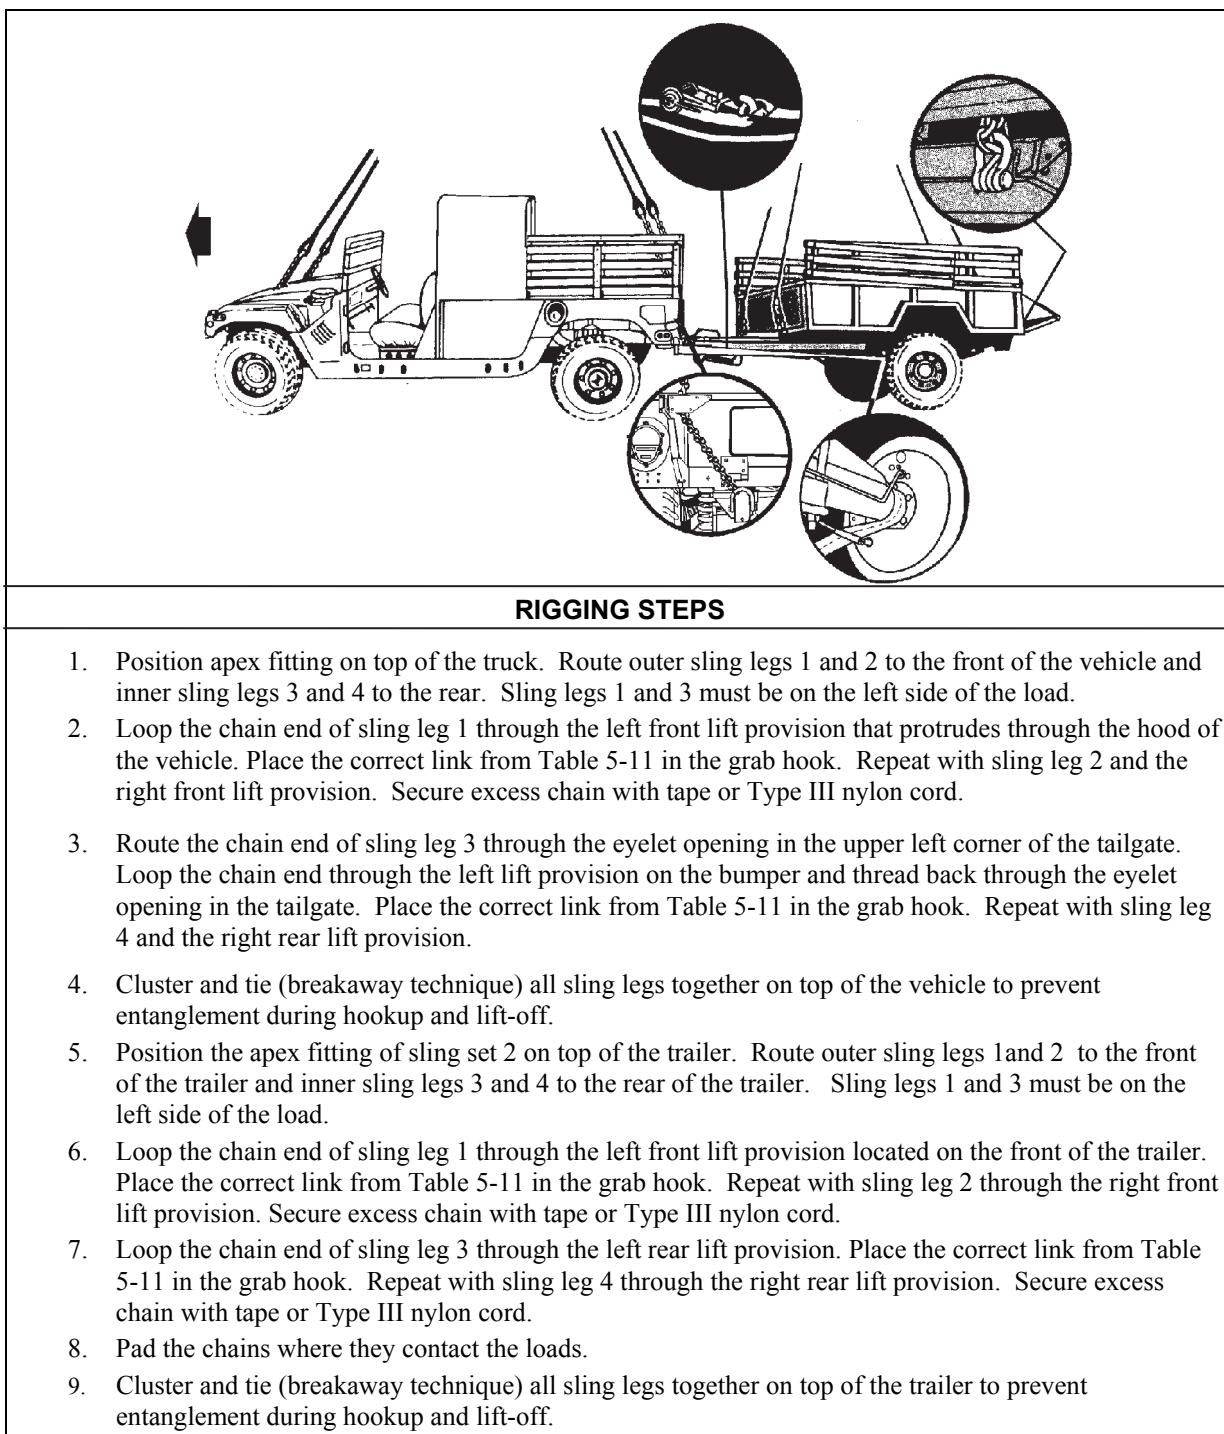

Figure 5-11. M1097 with AN/TSQ-183 Counter Battery Radar and M101A2 Trailer
- **Rigging.** Rig the load according to the steps in Figure 5-11.